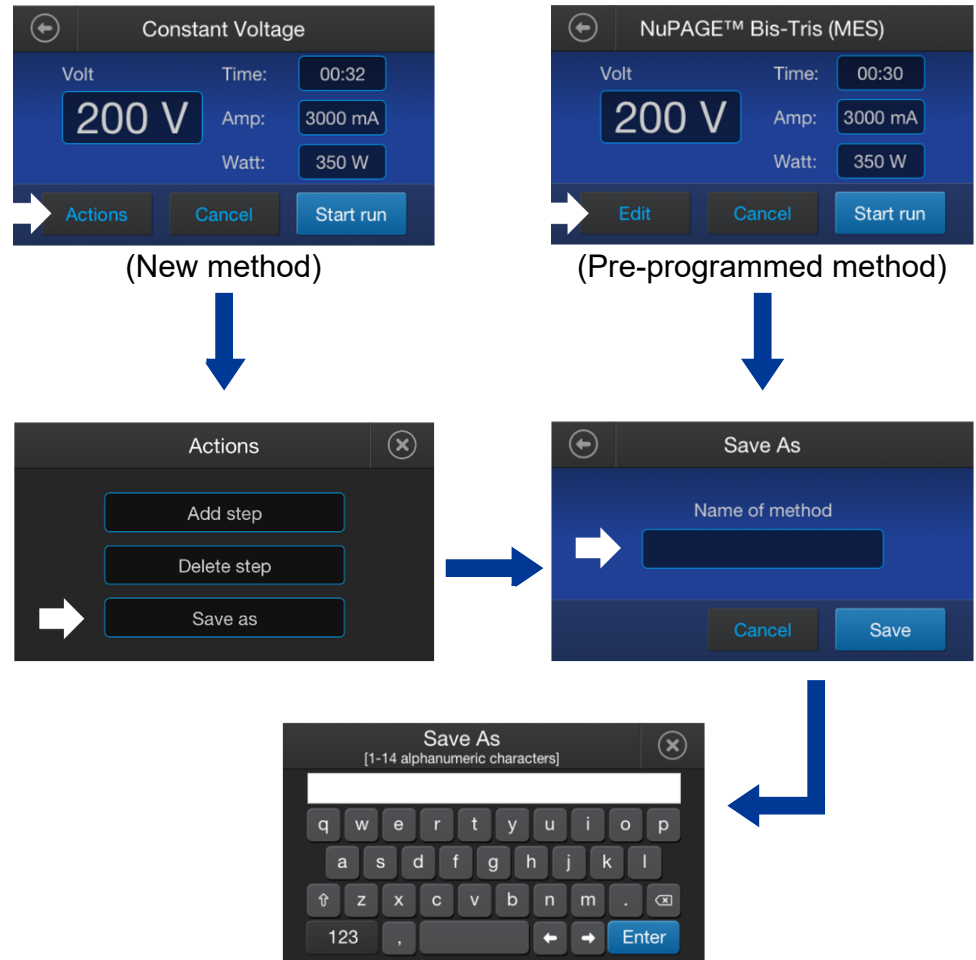

Figure 9 Screens for saving methods
- Edit the method by touching **Edit**, then save the method using a new name (see Figure 9) or begin the run by touching **Start run**.
1. Save a new method by touching **Actions** on the **Method Run** screen (see Figure 9).
1. Touch **Actions**, then **Save As** (see Figure 9).
1. Touch **Actions**, then **Add step** (see Figure 9).